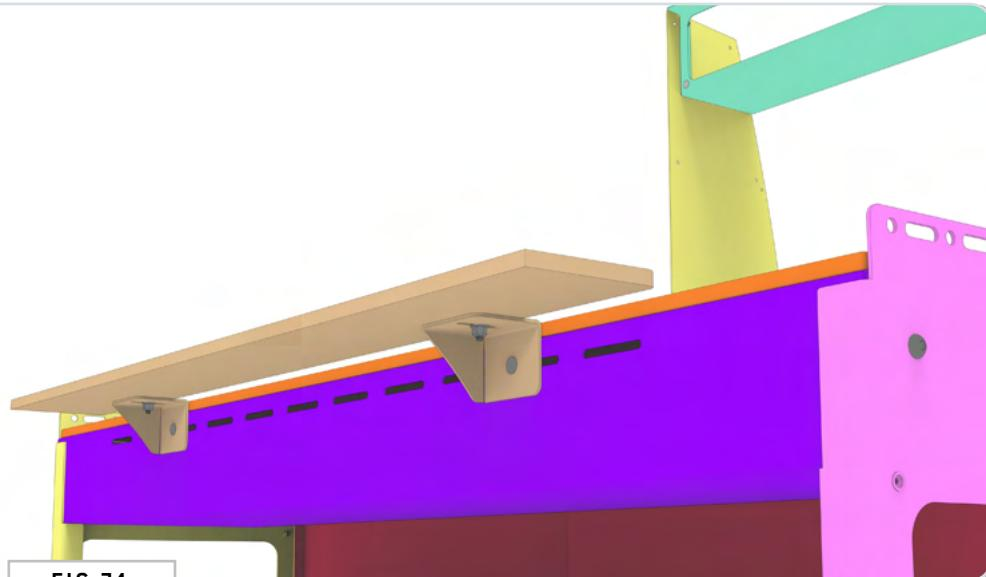
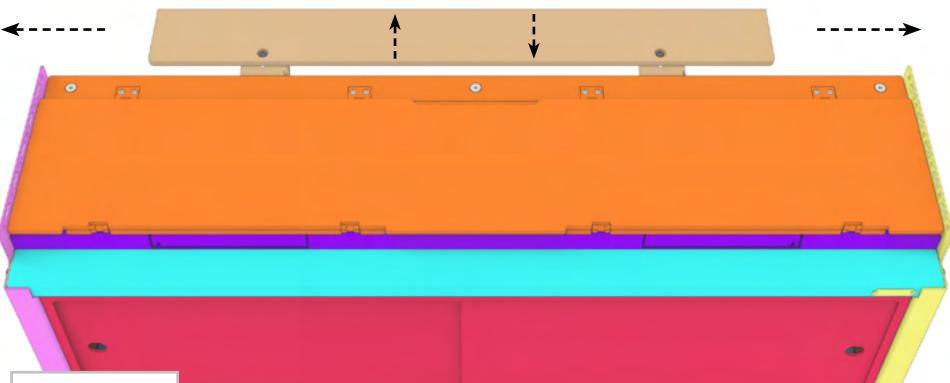

FIG 74
FIG 75
5.6 Fit and Install Table Side Flare: Loosely attach the **Table Side Cabinet Flare** in the orientation as shown to the **Rear Support** of the **Hinge Side Cabinet** using **(2) 1/4-20 x 0.75 Square Neck Carriage Bolts, Flat Washers and Nylon Locknuts** **(FIG 74)**. Adjust left, right, up and down until you're satisfied with the fitments and finish by securing all fasteners **(FIG 75)**.